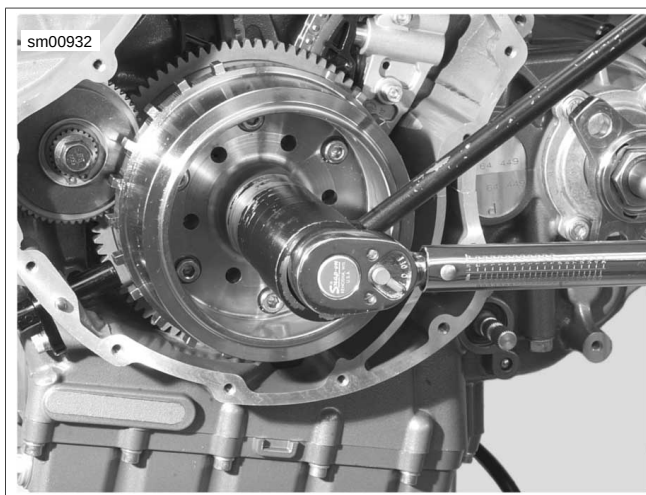

Figure 3-39. Install Rotor Shell
15. See Figure 3-39. Hold the rotor with CRANKSHAFT ROTATING WRENCH (Part No. HD-45314) and tighten rotor bolt to 83 Nm (61 ft-lbs) then loosen one full turn.